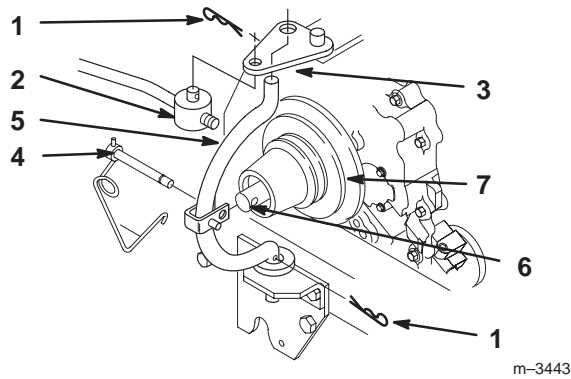

Figure 34
4. Unlatch and remove locking clevis pin that secures yoke assembly to clutch shaft. Pivot yoke out and forward to remove from clutch shaft and engagement plate (Fig. 34).
5. Replace belt in inside pulley groove (Fig. 34).
- Assemble yoke and engagement plate and attach locking clevis pin, trunnion and hairpin cotters to secure (Fig. 34).